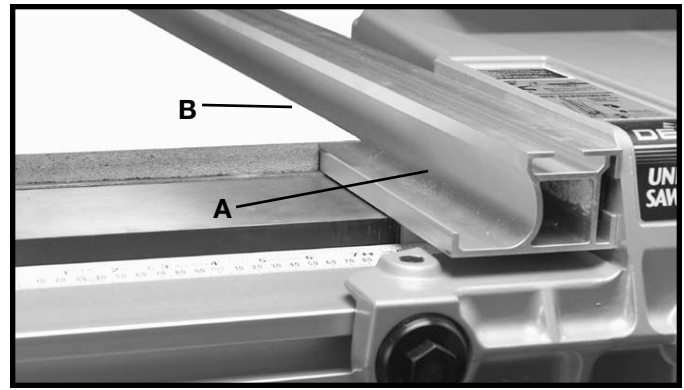

Fig. 80
When ripping material with a veneer facing that extends over the material, the fence (A) should be in the horizontal position with the veneer (B) extending over the lip of the fence, as shown in Fig. 80.